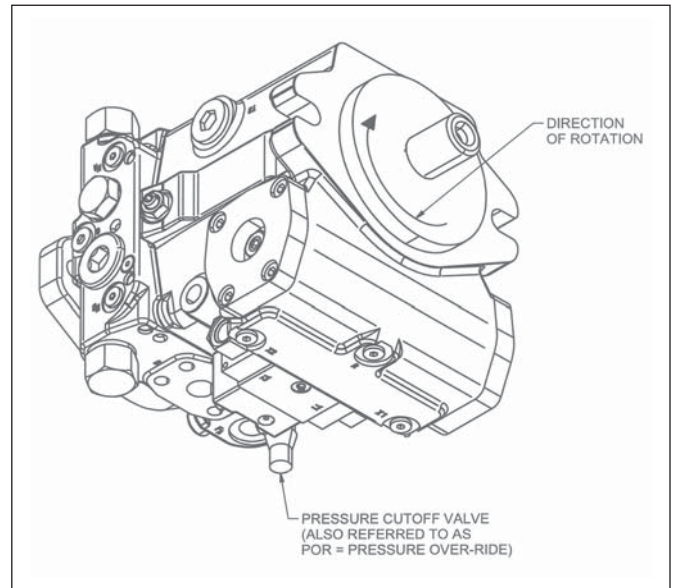

**Figure 3-15 High Pressure Relief Valve Adjustment**
### High pressure relief valve adjustment (C80 and K37) (See Figures 3-15 & 3-16)
1. Turn POR adjusting screw in (clockwise) until firm resistance is encountered. Do not force beyond this point. See location in Figure 3-15.
3. Remove relief valve cover from pump (ref. item 1).
4. Loosen jam screw (ref. item 2).
5. Holding spring loading nut (ref. item 4) adjust valve Spindle (ref. item 3). One turn equals 630 psi (44 bar).
7. After adjustment is completed, tighten jam screw (ref. item 2) to 5 ft-lbs. (7 Nm).
8. Install relief valve assembly into pump, tighten cover (ref. item 1) to 66 ft-lbs. (90 Nm).